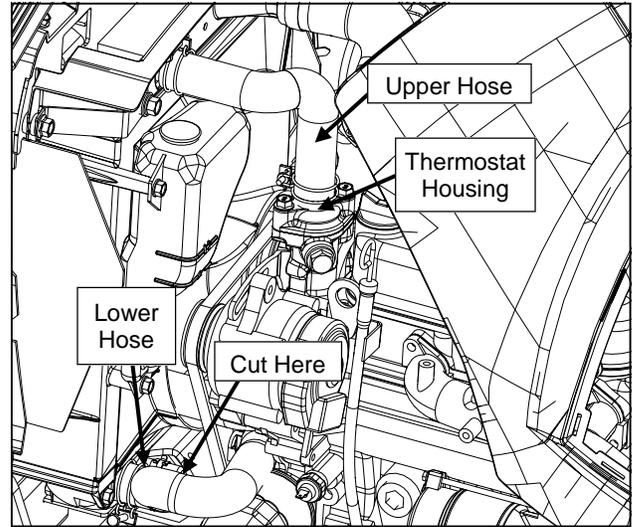

Figure 17.4 (Right Side of Engine Bay)
- 17.4** Locate the lower coolant hose on the right side of the engine. See Figure 17.4. Cut the lower hose between the two 90° bends as shown and let any remaining coolant drain into a clean drain pan.